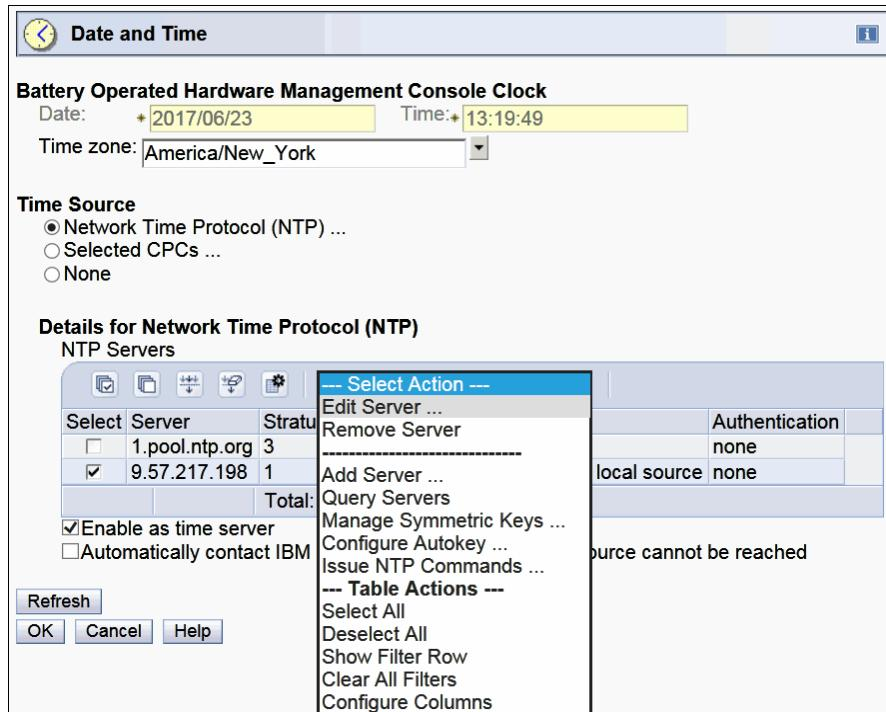

Figure 8-18 Edit NTP server
9. Select the check box for the server name you want to modify and then click **Select Action → Edit Server** (Figure 8-18).